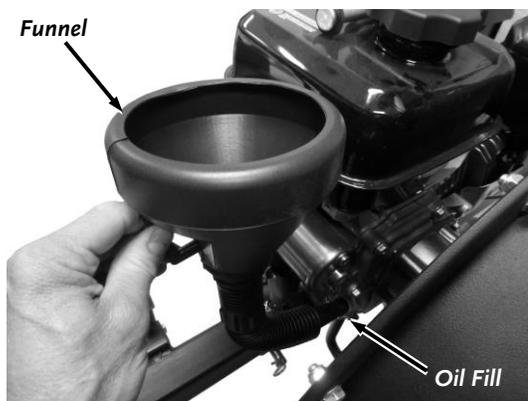

Figure 71
3. Remove the dipstick and add an initial quantity of the oil recommended by the Engine Manufacturer (refer to your Engine Owner's Manual for recommended quantities), and wait one minute for the oil to settle (**Figure 71**).